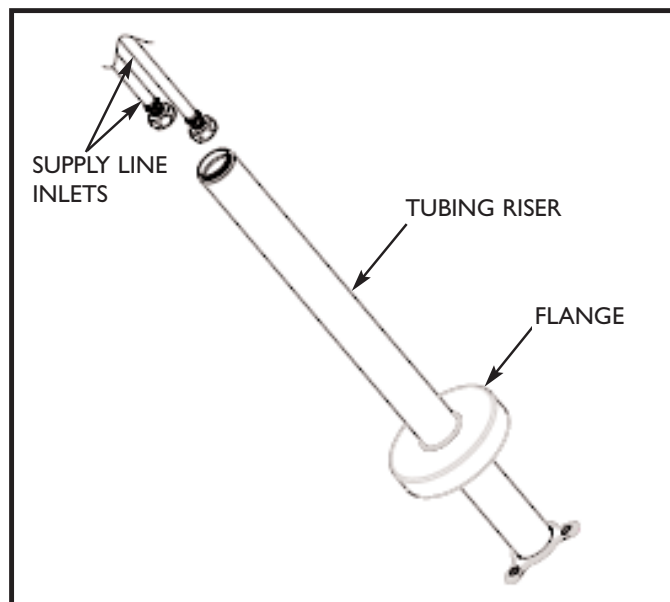

Figure 3
I. Assembling the Tub Filler: Figure 3 illustrates the staggering technique required to thread the two $\frac{3}{4}$ " INLETS of the flexible SUPPLY LINES through the TUBING RISER.